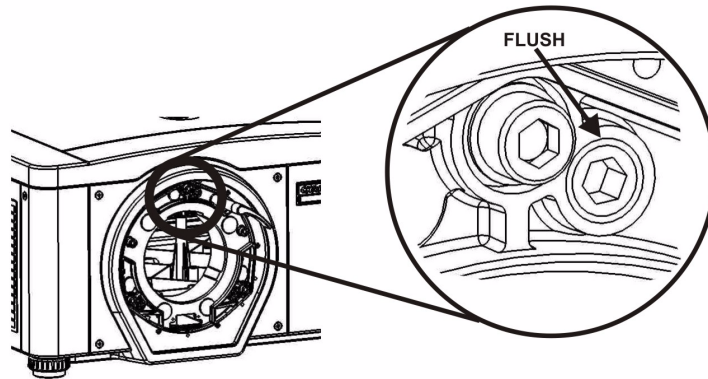

FIGURE 2-17 POSITION SETSCREW FLUSH
9. The original factory boresight can be recovered approximately by positioning the 3 setscrews, see Figure 2-16 Screw Locations. Position the setscrews flush with the front face of the lens mount plate and in contact with the inner lens mount plate, see below Figure 2-17 Position Setscrew Flush. This may require adjusting both setscrews and capscrews.